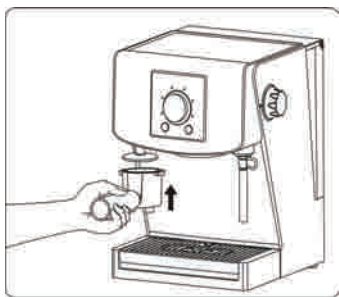

Fig. 4
- 8.9. Remove the exceed of coffee from the edge of the filter and tamp coffee with the use of the tamping device fastened to the machine **(5)** or the tamping spoon of the measure **(13)** **(Fig. 4)**.
- 9.9. Remove the excess of coffee from the edge of the filter and tamp coffee with the use of the tamping device fastened to the machine **(5)** or the flat end of the measuring/tamping spoon **(13)** (**Fig. 4**).